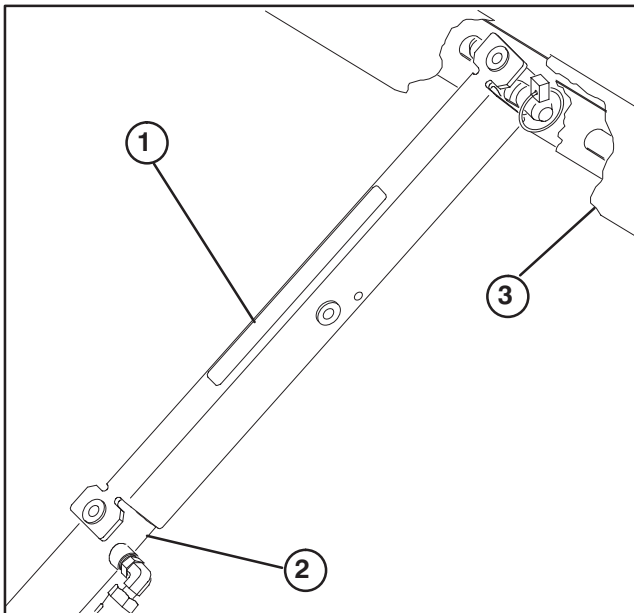

Figure 8
C. Push bed support onto cylinder rod, making sure support end tabs rest on end of cylinder barrel and on cylinder rod end (Fig. 8).